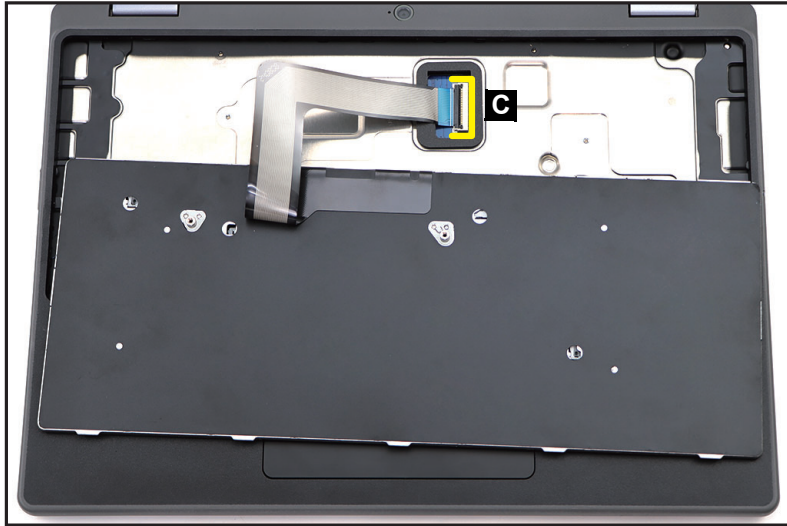

Figure 1-12. Keyboard Removal
5. Disconnect the keyboard FPC from the mainboard connector (C) (Figure 1-12). Then remove the keyboard.